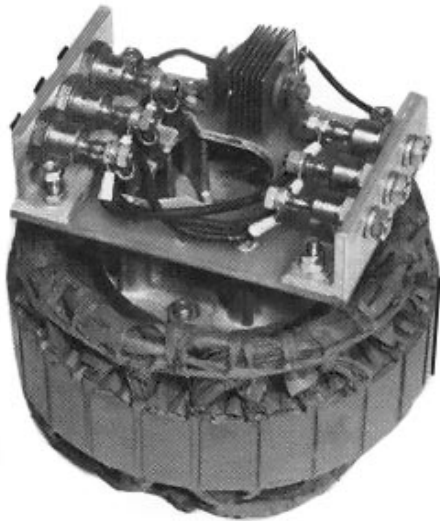

Figure 6-33
1. Clean dust and dirt from and rectifier assembly. (Figure 6-33) (See Section 5)